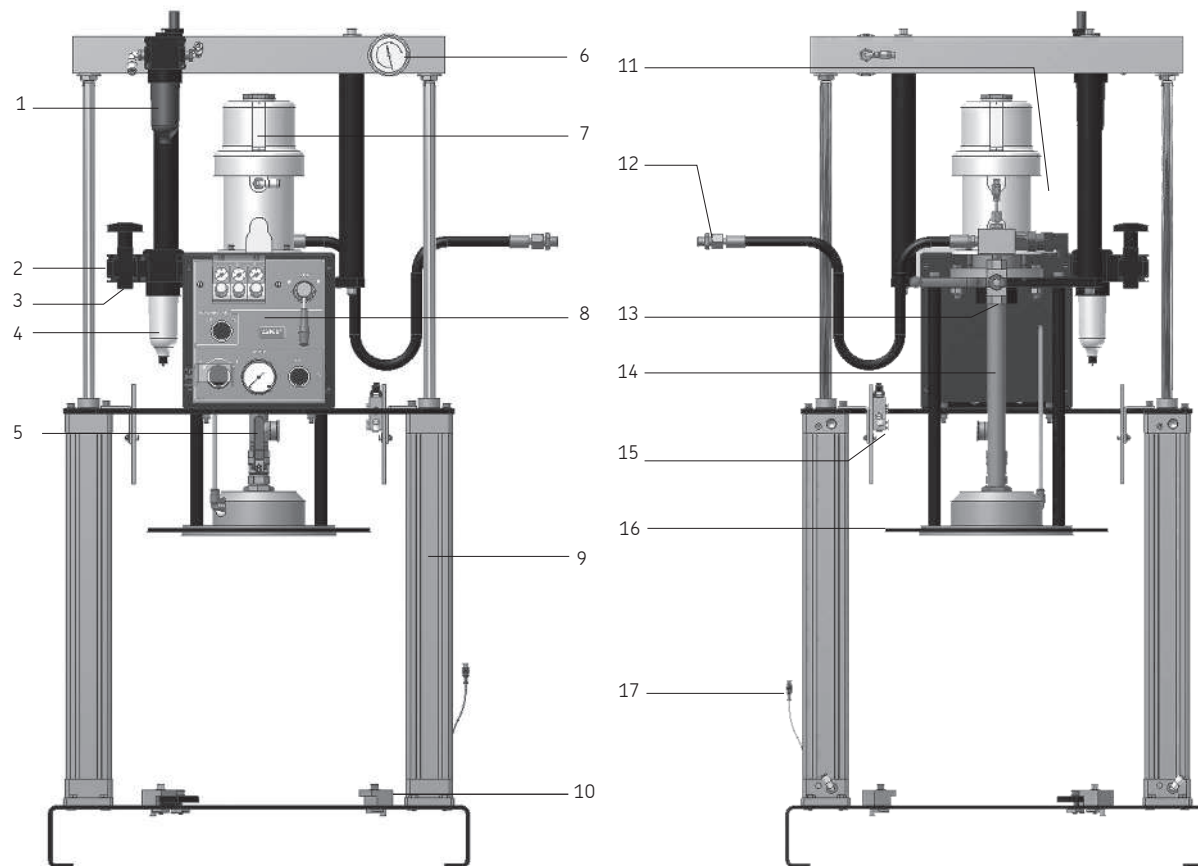

Fig. 1 Extruder pump PTEX for 25 kg drum
Figure 1 shows the essential design of the extruder pump PTEX for 25 kg drum.
The compressed air line is connected to the extruder pump (→ **pos. 2 fig. 1 page 9**) via a male connector G 3/8".